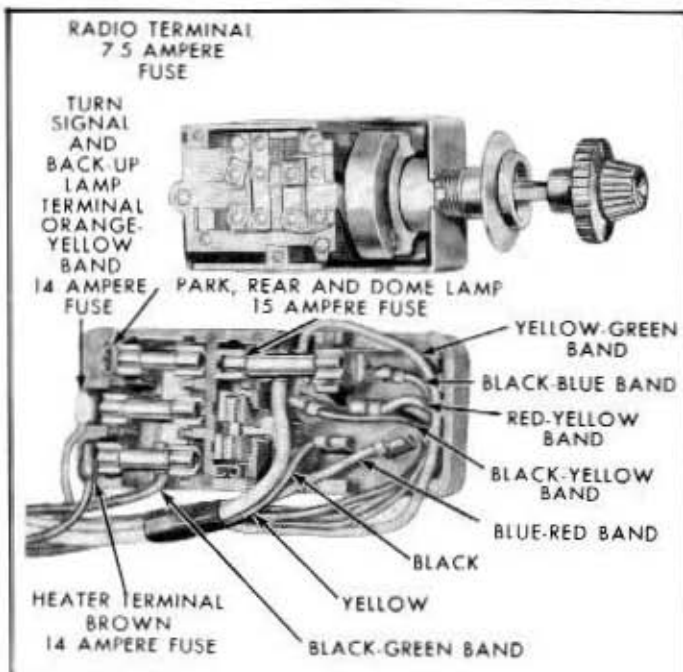

Fig. 10-7—Mainlight Switch and Fuse Panel—(61CM-7609)
3. Disconnect the fuse panel from the switch. See figure 10-7.